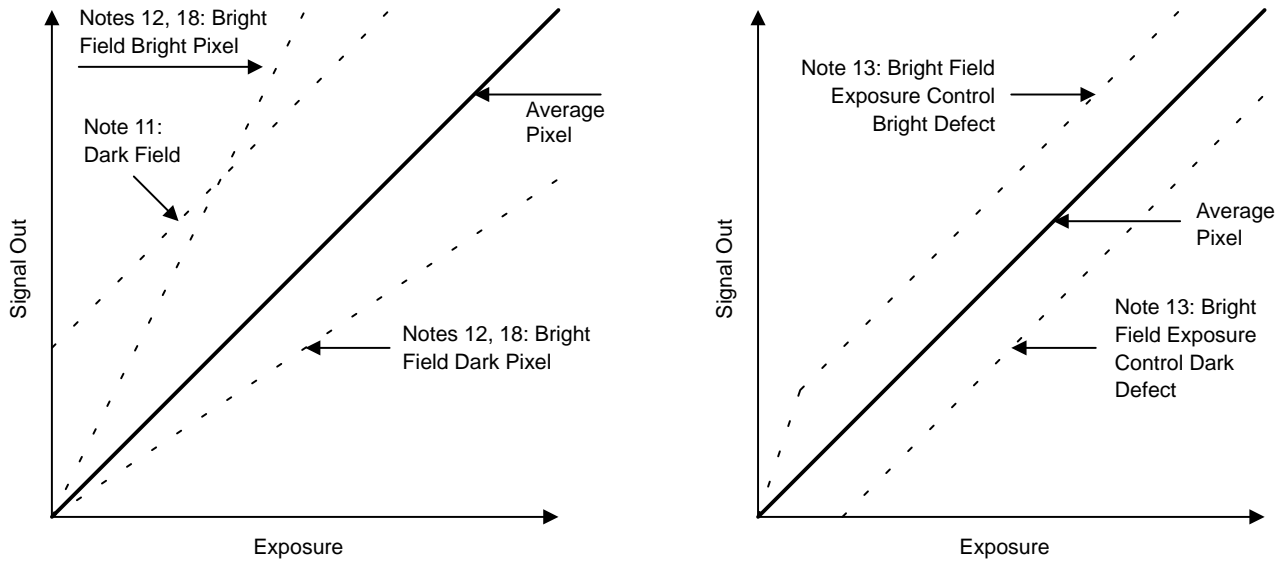

Figure 11. Defect Pixel Classification
11. Pixels whose response is greater than the average response by the specified threshold, (16 mV). See Figure 11.
12. Pixels whose response is greater or less than the average response by the specified threshold, ($\pm 15\%$). See Figure 11.
13. Pixels whose response deviates from the average pixel response by the specified threshold, (4.5 mV for Chroma, 5.5 mV for Luma), when operating in exposure control mode with an integration time that is 50% of the line time. See Figure 11. If dark pattern correction is used with exposure control, the dark pattern acquisition should be completed with exposure control actuated. Dark current tends to suppress the magnitude of these defects as observed in typical applications, hence line rate changes may affect perceived defect magnitude. Measured at 1 MHz data rate.
18. Pixels whose response is greater or less than the average response by the specified threshold, ($\pm 10\%$). See Figure 11.